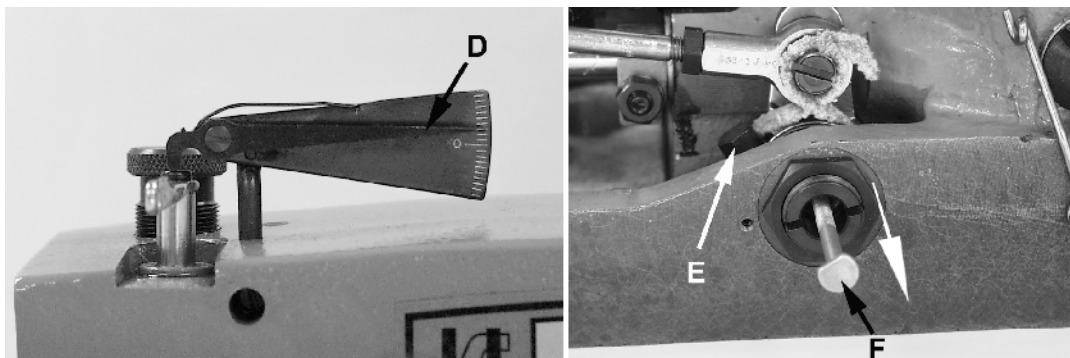

Fig 3A
If the pointer (D) on the indicator reads above the "0" (Fig. 3A). Loosen screw (E) in the looper drive lever and pull screw (F), (99271), slightly toward the operator. Retighten screw (E) in the looper drive lever and recheck the synchronization as outlined above. Repeat as necessary to obtain proper synchronization.